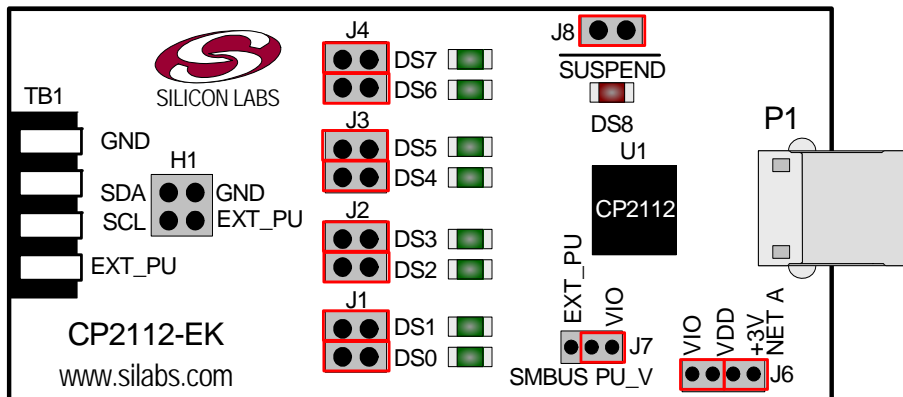
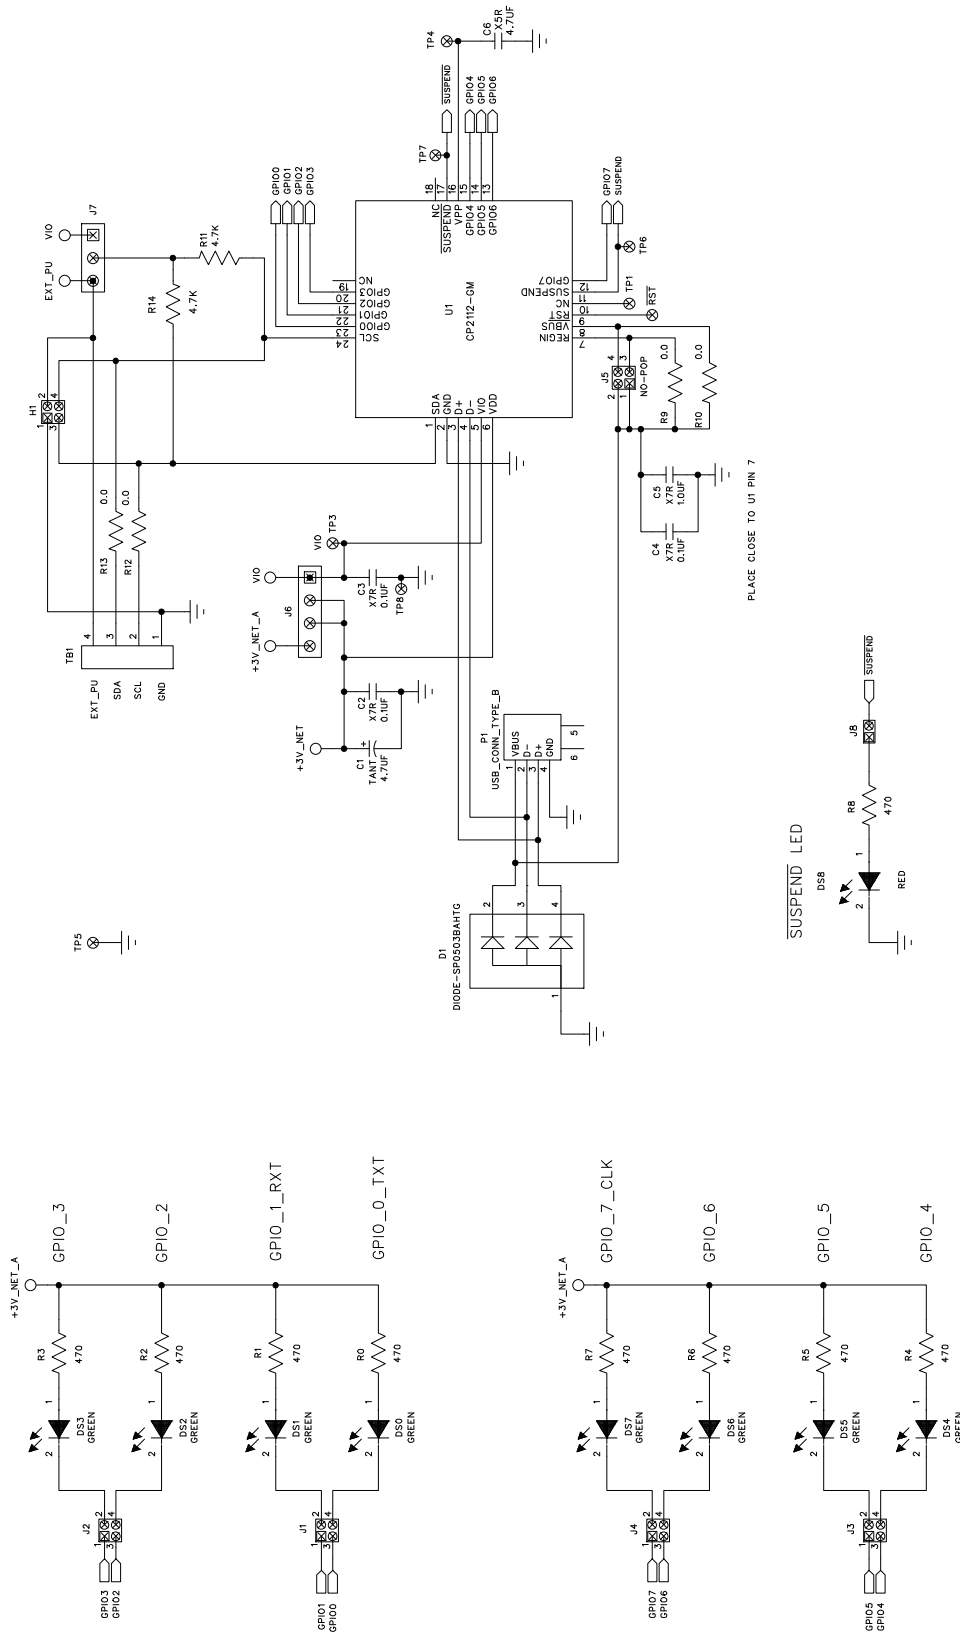

Figure 6. CP2112 Evaluation Board with Default Shorting Blocks Installed
Figure 7. CP2112 Evaluation Board Schematic
The CP2112 Evaluation Kit includes an evaluation board with a CP2112 device pre-installed for evaluation and preliminary software development. Numerous input/output (I/O) connections are provided to facilitate prototyping using the evaluation board. Refer to Figure 6 for the locations of the various I/O connectors. Refer to Figure 7, "CP2112 Evaluation Board Schematic" for information regarding the SMBus pull-up resistors that are located on the target board.
- Updated Figure 7 on page 8.